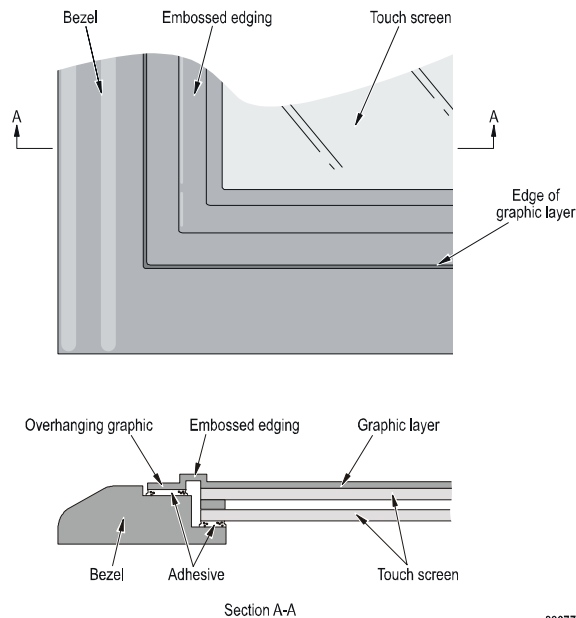

Figure 15: Embossed edge around the bezel
- Designing an embossed edge around the entire perimeter, as in Figure 15 (recommended by 3M Touch Systems), *or*